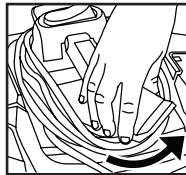

FIGURE 31
54. To remove the cord from the cord wraps grasp the sides of the rear cord wrap located behind the handle, turn counter clockwise 180° until the tip of the cord wrap is above the handle. **FIGURE 31.**